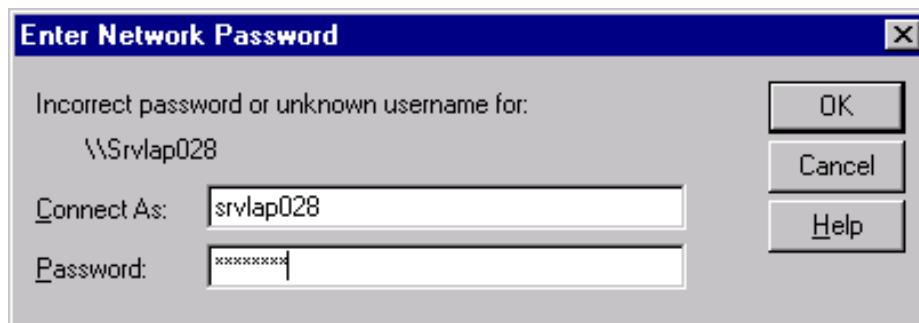

FIGURE 26. NT Laptop Password Dialog
- 8.47 A Network Password window should soon appear indicating an incorrect user name or password. This is normal. Enter the computer's name (SRVLAP028) in the Connect As: field by removing the "\\" portion of this listed field. Also remove "\NAD software". Enter the word "password" in the Password field. Press the Enter key. See Figure 26.